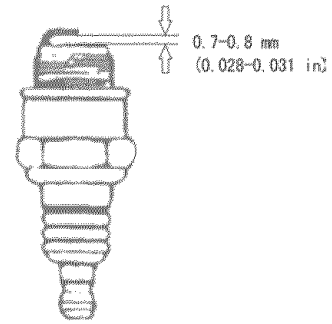

Figure 21- Measuring the spark plug gap
4. Measure the plug gap with a gauge (see figure 21). The gap should be 0.7-0.8mm (0.028-0.031in).